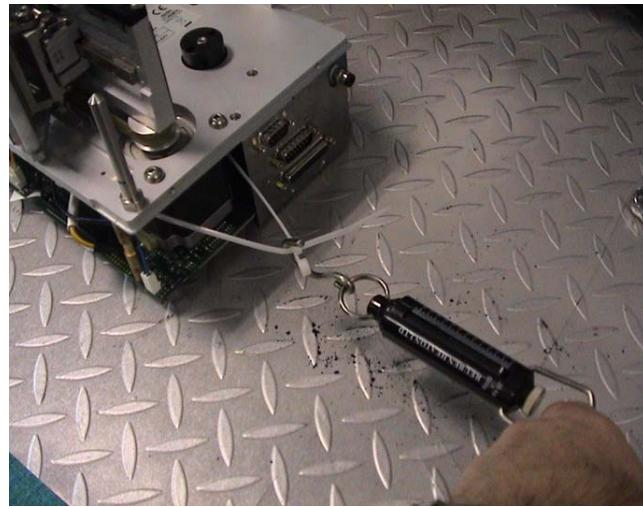

Figure 5-31: Attach the Scales
- 5 Attach the scales to the tie-wraps (refer Figure 5-31).